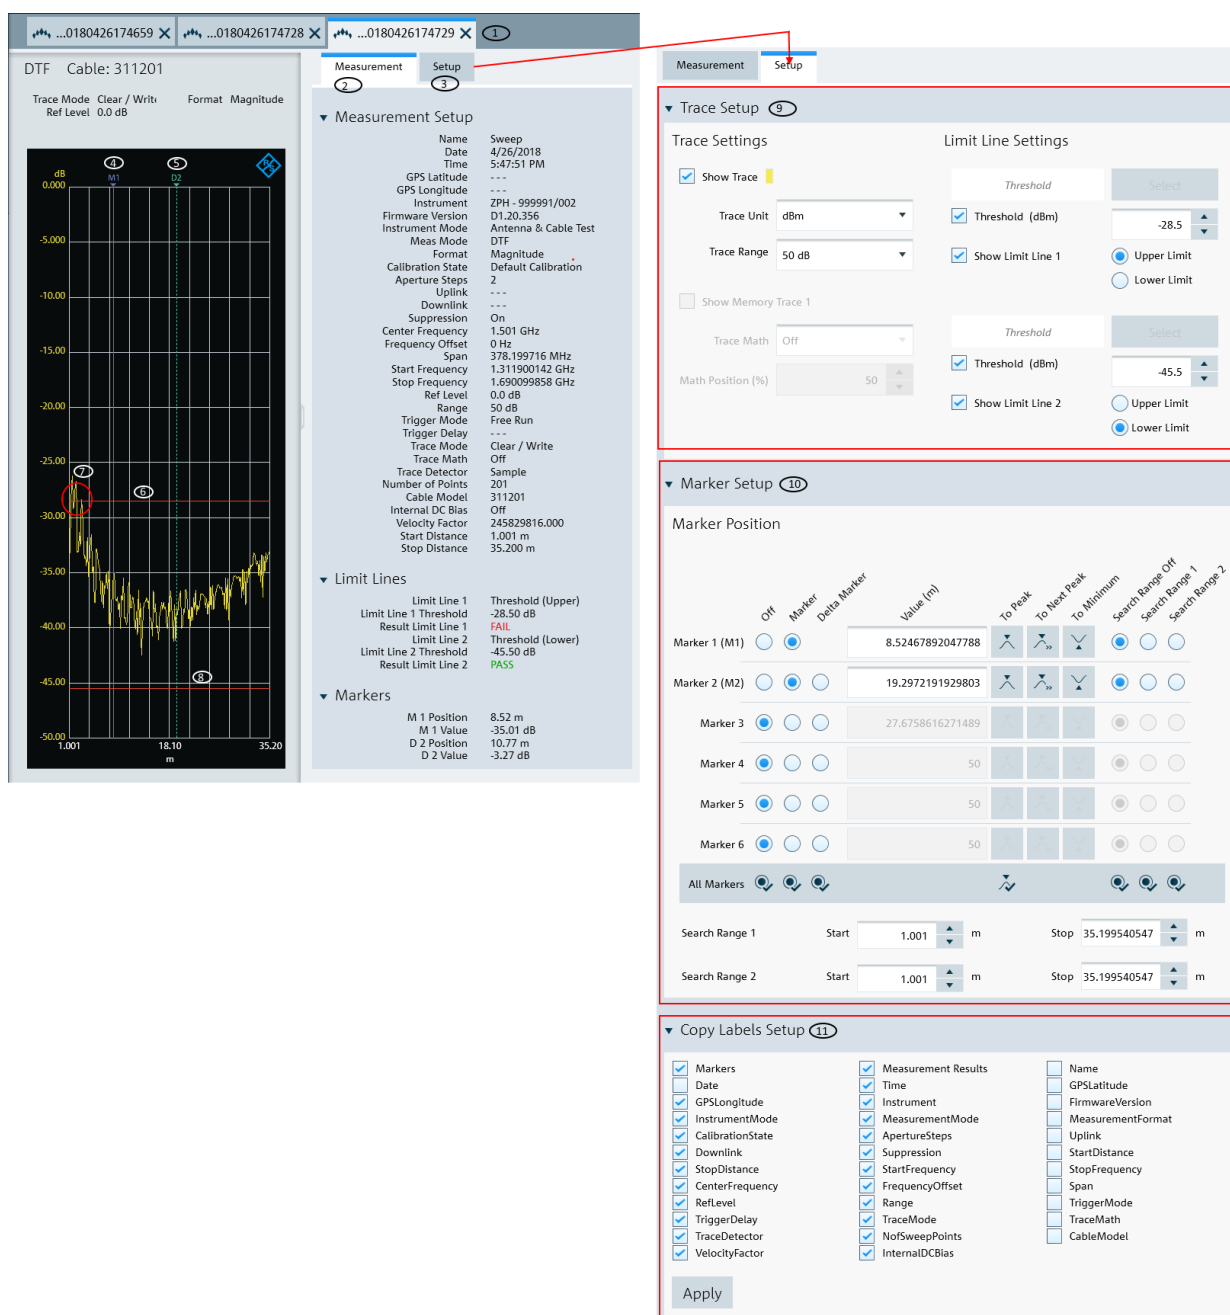

Figure 5-1: Trace measurement window
The "Get Trace" menu allows you to capture the current trace measurement from the instrument and display it in the trace window. A new tab is formed in the "Tab header bar" for every new trace captured from the instrument. See index 1 in Figure 5-1.
See index 6 and 7 in Figure 5-1.
Trace measurement details captured from the instrument are displayed in the "Setup" tab. You can edit existing setup information or add additional setup information on the selected trace measurement. See index 3 in Figure 5-1.
- The "Limit Line Settings" provides two sets of limit line that you can apply on the trace window. Each set of the limit line provides the selection to apply it as "Upper Limit" or "Lower Limit". The test result of the limit line is displayed in the "Measurement" tab. See index 2 in Figure 5-1.
See details of the "Measurement" tab in index 2 of Figure 5-1.
See details of the "Setup" tab in index 3 of Figure 5-1.